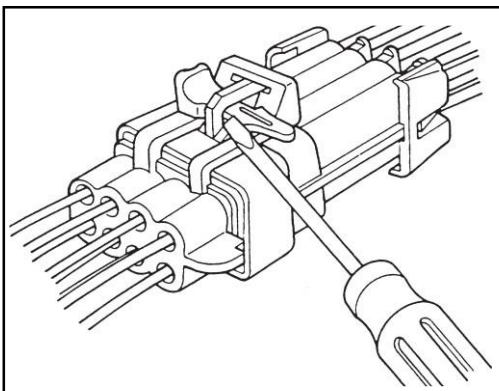

Figure 21
- To remove a connector position assurance (CPA) lock — Remove the CPA lock by simply depressing the tabs on either side and pulling the lock out of the connection. (See Figure 21.)